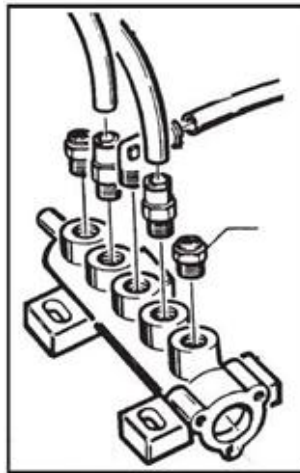

Fig. 5-5
- To clean or replace the opening/closing jaw silencer (G), proceed as follows (fig. 5-5):